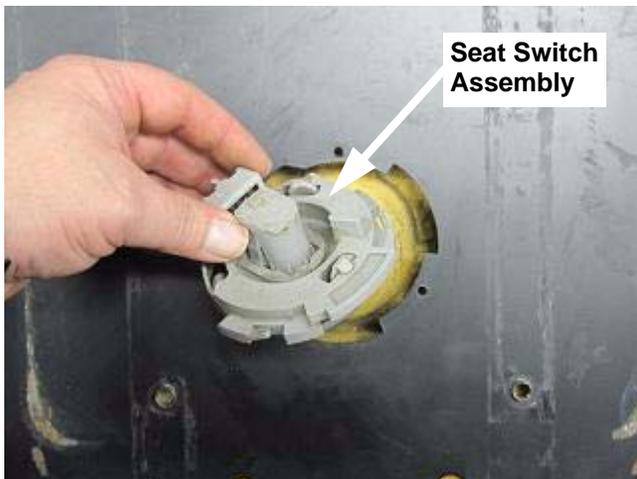

FIGURE 5
12. The seat switch assembly can now be removed from the seat base by lifting upward. See Figure 5.